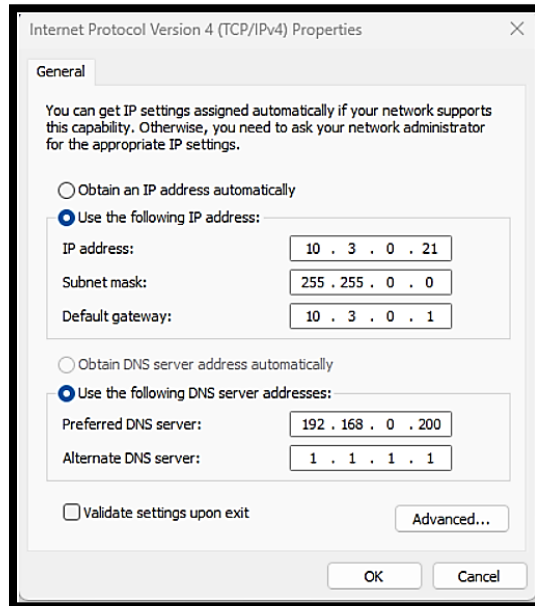

Figure 5 - IP configuration
11. For the IP address, enter the information shown in figure 5.